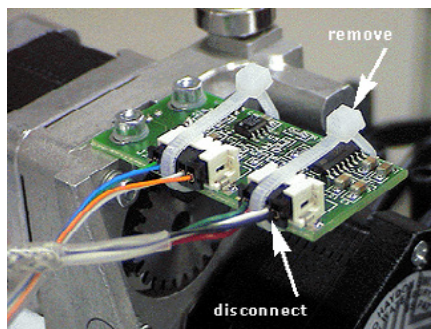

Figure 2 - Thread Feeder Home PCB
9. Disconnect the grabber/threadfeed/cc harness from the thread feeder home PCB located at the top center right behind the needlecase assembly (on the right above the thread feeder stepper motor). The grabber/threadfeed/cc harness threadfeed home lead is the four pin connector identified in Figure 2 above. The five pin connector is for the stepper motor interface cable.